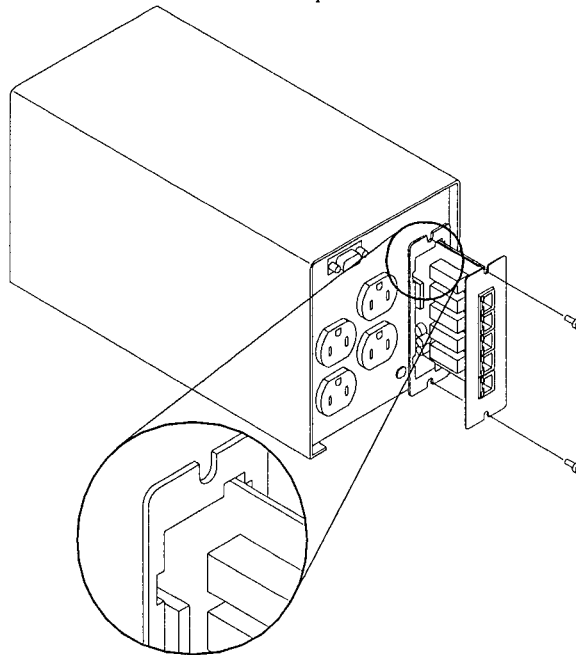

Figure 3: Orient the hub to fit into the SmartSlot.
- 4 Orient the hub to fit into the SmartSlot. Slide the hub all the way into the slot until its front panel is flush with the back panel of the UPS or triple chassis. Observe the correct orientation as shown in Figure 3. Note that the sides of the circuit board align with the card guides of the SmartSlot.